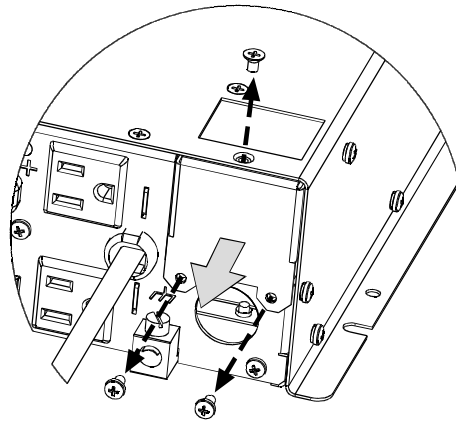

Figure 9 Removing the three screws on the wiring box access panel
3. Locate the wiring box access panel, and remove the three screws to access the wiring box as shown in Figure 9.